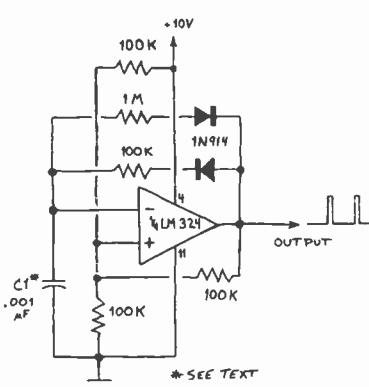
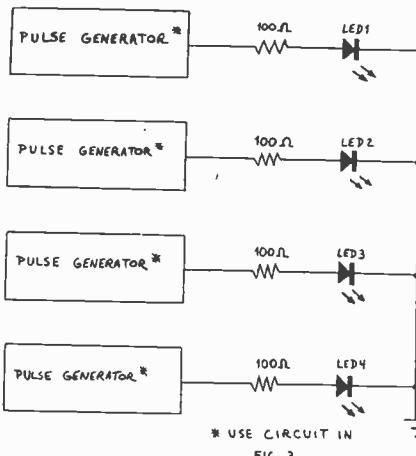

Fig. 3. Change C1 to vary pulses.
Fig. 5. Random LED flasher.
A somewhat more versatile pulse generator is shown in Fig. 3. The repetition rate of this circuit can be changed from one pulse every few minutes to 200 kHz by simply changing C1. Here's a table of pulse parameters I measured with the prototype circuit:
The conventional pulse generator of Fig. 3 can also be used to experiment with applications like these:
3. A LED "random" flasher. See Fig. 5 for this variation of the circuit. For best results, use different values for the capacitors ( $C_1$  in Fig. 3) to provide different flash rates. These values should range from about 0.2 to 1.0  $\mu$ F so that the flashing will be discernable to the eye. Incidentally, you can house this circuit in a small plastic enclosure for permanent use as a novelty or attention-getting device.